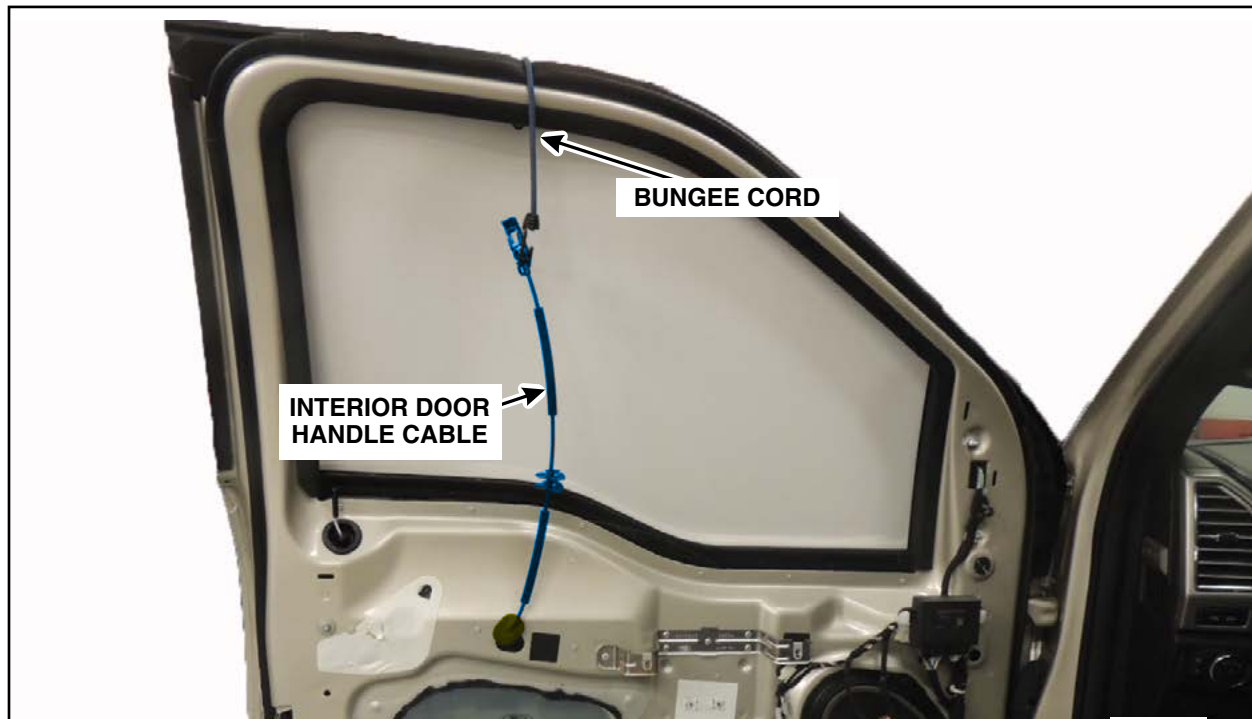

FIGURE 13
18. Using a bungee cord or other similar device, secure the interior door handle cable to the door in an upward position to allow the Motorcraft® XL-6 silicone lubricant time to run down into the cable, until the interior door panel is reinstalled later in this procedure. See Figure 13.